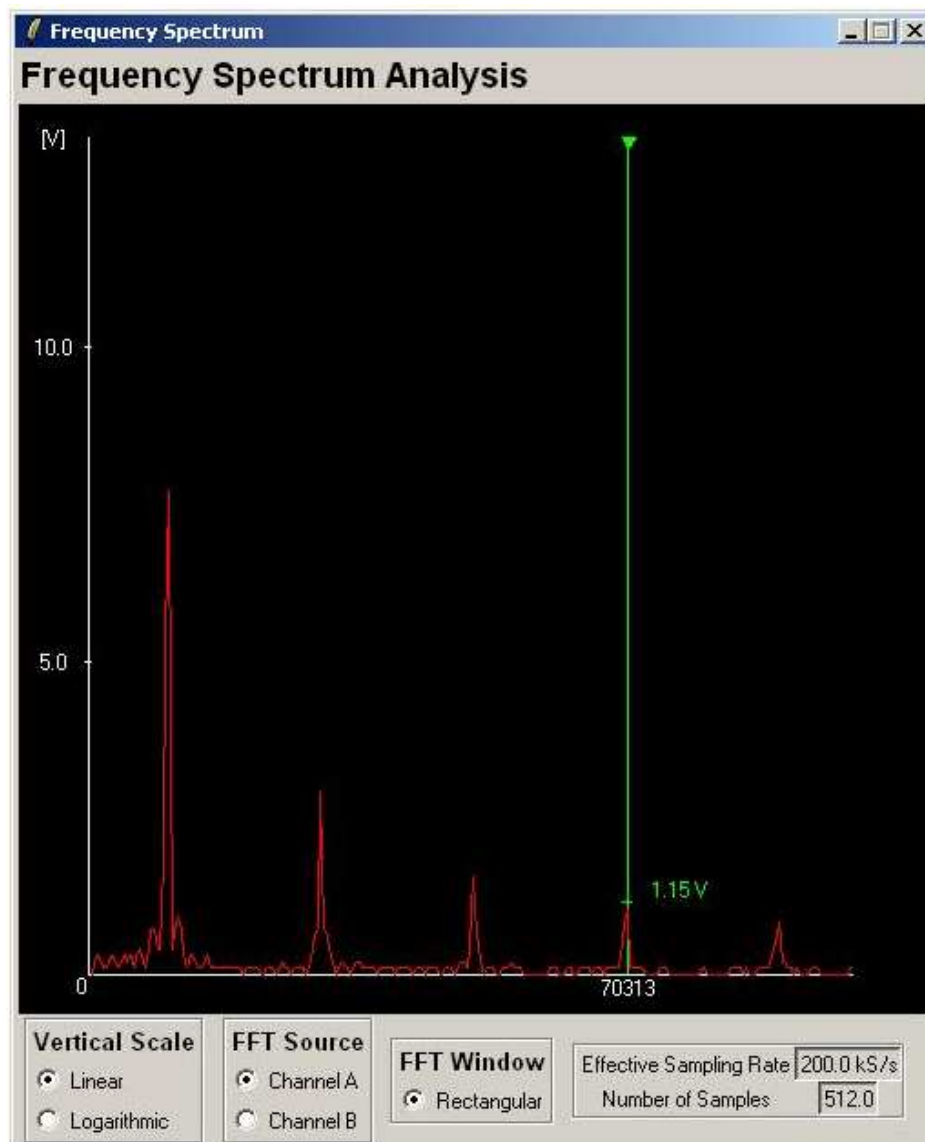

Figure 4: Square Wave Spectrum
Clicking on Tools -> Spectrum Analysis brings up the spectrum analysis display of figure 4. The displayed spectrum in this image is a 10kHz square wave of amplitude 8.8 volts peak.
- The Effective Sampling Rate is shown in a readout at the bottom right corner of the spectrum display. This is important: the sampling rate must be at least twice the frequencies being analysed to avoid aliasing. Put another way, there must not be frequency components above the Nyquist rate, which is half the sampling rate. In the example shown in figure 4, the sample rate is 200kHz. The frequency components range from 10kHz to 90kHz, below the Nyquist rate of 100kHz².
- As the readout cursor is dragged higher in frequency it jumps from bin to bin, reading out the centre frequency of each bin. A given frequency component may not be centred in its bin, so the frequency readout will be only approximate. For example, in figure 4, the square wave frequency (generated by a Syscomp WGM-101 waveform generator) is at a frequency 10kHz to within a fraction of a Hz. The 9th harmonic is at 90kHz. The spectrum display readout puts the 9th harmonic at 90234 Hz, which is only approximately correct.
Determine the frequency resolution (bin spacing) for the case of the display of figure 4.